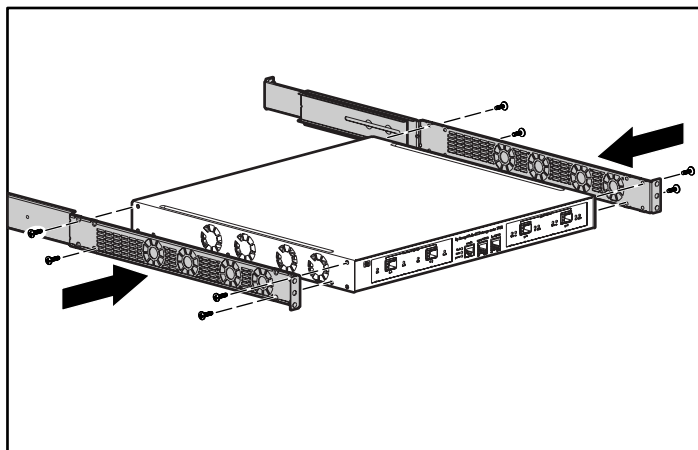

Figure 10 : Fixation des rails
6. Aligned and fix the rails to the chassis using the provided flat head screws (refer to Figure 10).